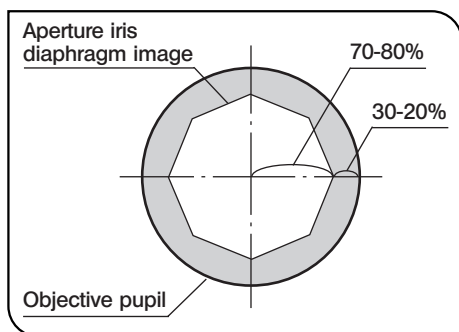

Fig. 31
Aperture Iris Diaphragm (Figs. 31 & 32)
- Since the contrast of microscope specimens is ordinarily low, setting the condenser aperture iris diaphragm to between 70% and 80% of the NA of the objective in use is usually recommended. If necessary, adjust the ratio by removing the eyepiece and looking into the eyepiece sleeve while adjusting the aperture iris diaphragm ring ① until the image shown in Fig. 31 is seen.